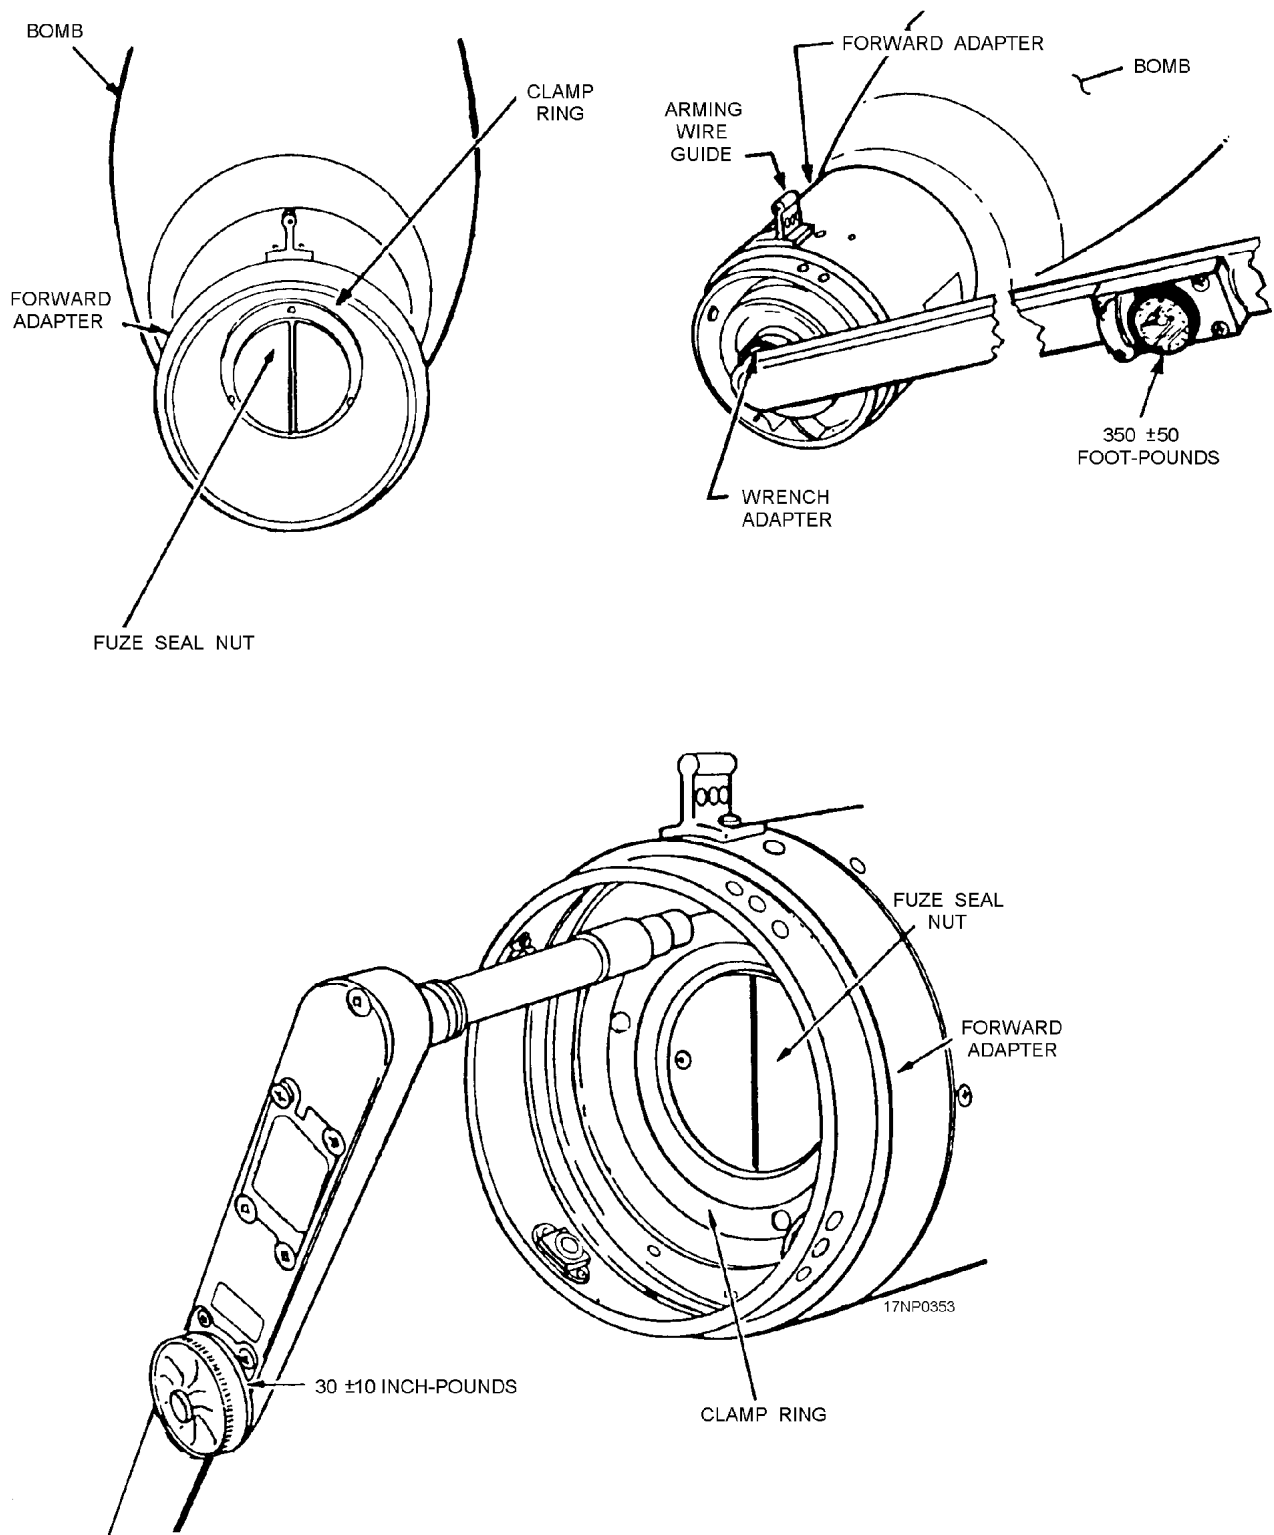

Figure 13-21.—Clamp ring installation.
7. Install clamp ring onto retainer bolt (fig. 13-21). Back out setscrew to prevent assembly interference.
10. Apply specified torque to clamp ring setscrew (fig. 13-21).